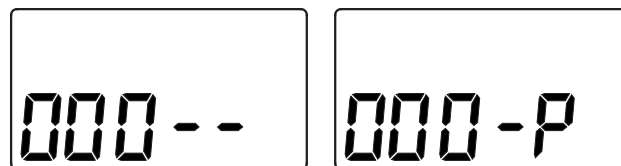

FIG. 33
1. Press and hold the SELECT button until one of the screens in Figure 33 is displayed. Once in this dis-